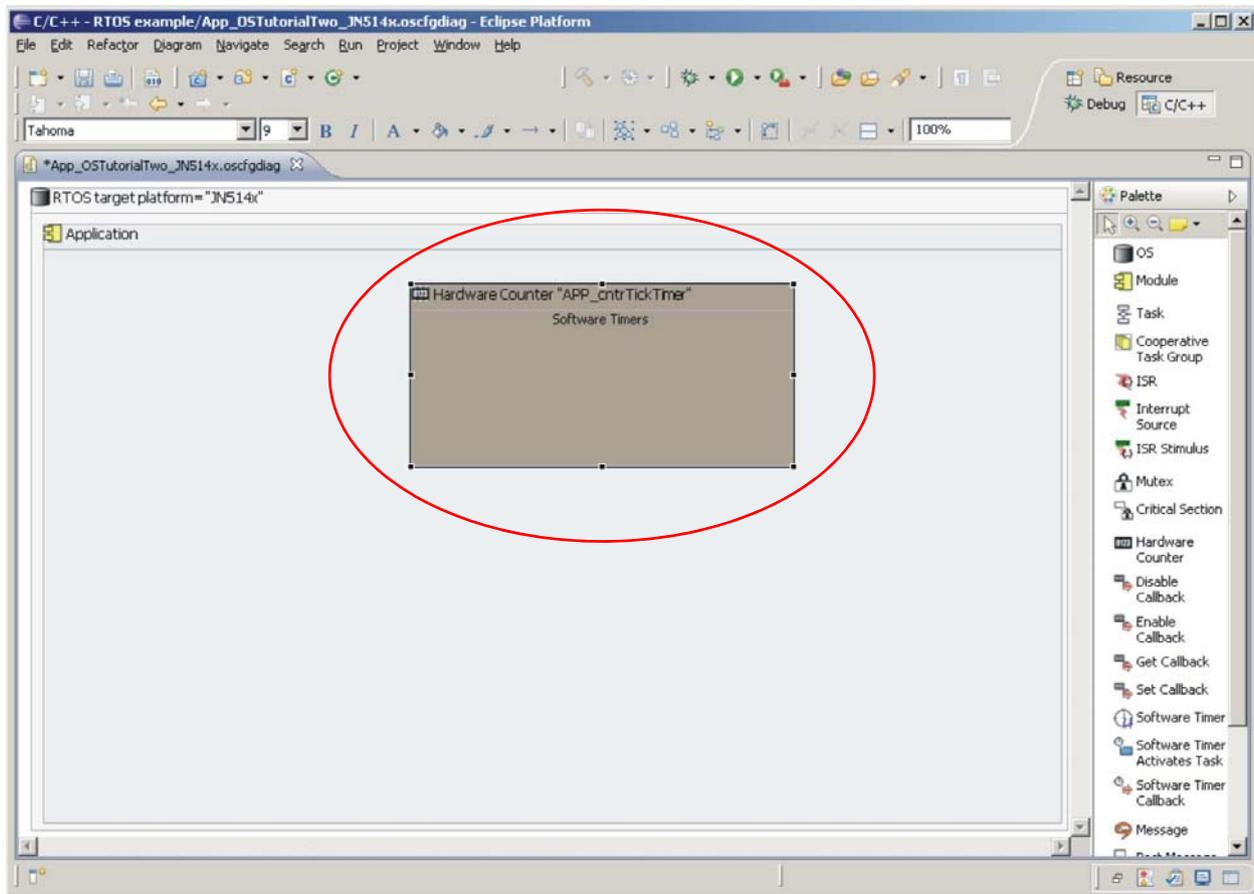

Figure 18: 'Hardware Counter' Element
Step 2 Add a hardware counter to the diagram as shown in Figure 18 below and name it **APP_cntrTickTimer**.